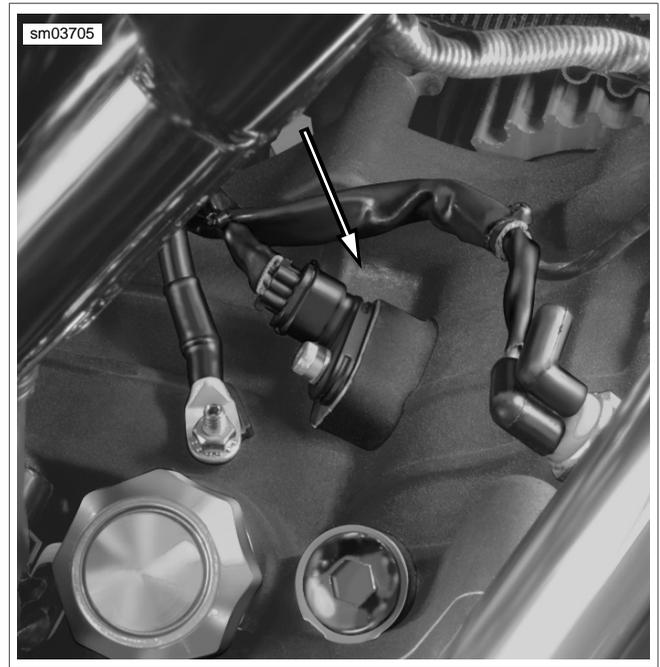

Figure 8-81. VSS Location
2. Disconnect VSS connector [65], 3-place Delphi, at top of transmission case. See Figure 8-81.